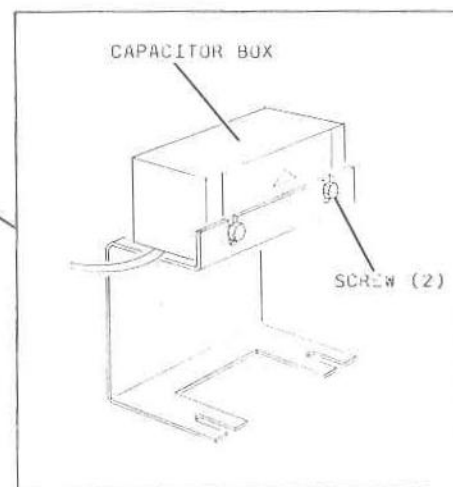

Figure 23
- TRACK SUBASSEMBLY, see figure 23